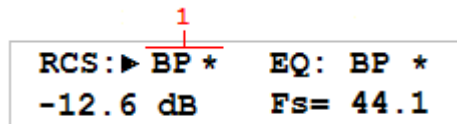
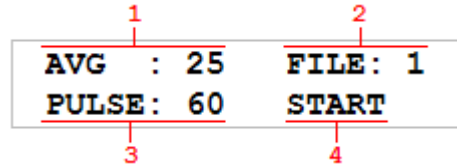

Fig. 3.1 Main Screen with RCS in bypass mode
Fig. 3.4 Measurement parameter screen
Make sure that the correction bypass mode is selected. In the main screen and by using the LEFT/RIGHT remote control buttons, place the screen pointer over the RCS block and select BP correction preset (1) as displayed in Fig. 3.1.
Press the ENTER button to display the measurement parameter screen. The measurement parameter screen (Fig. 3.4) has three parameters: AVG, FILE and PULSE. Your 2150 XDM is factory preset to AVG=25, FILE=1 and PULSE=60. You will rarely need to change these parameters. If you do need to change them please refer to the following parameter description.
To cancel the measurement hold down the 2150 XDM front panel MUTE button until CANCELED is displayed. Press the MENU or ENTER button to go back to the measurement parameter screen (Fig. 3.4). You can restart the measurement again by selecting the START option.
Once the measurements are completed go back to the main screen (Fig. 3.1). *Please note that in this example (Fig. 3.4) measurement data is saved in measurement file number 1.*
In the case when one of the channels detects insufficient signal energy a "LOW" message will be displayed next to it. To fix the problem make sure that the Tact microphone is connected to the MIC input connector, check your loudspeaker connections and repeat the measurement. If a "LOW" message is displayed, again increase the PULSE parameter in the measurement parameter screen (Fig. 3.4 option 3) and repeat the measurement. If the problem persists please contact Tact technical support.